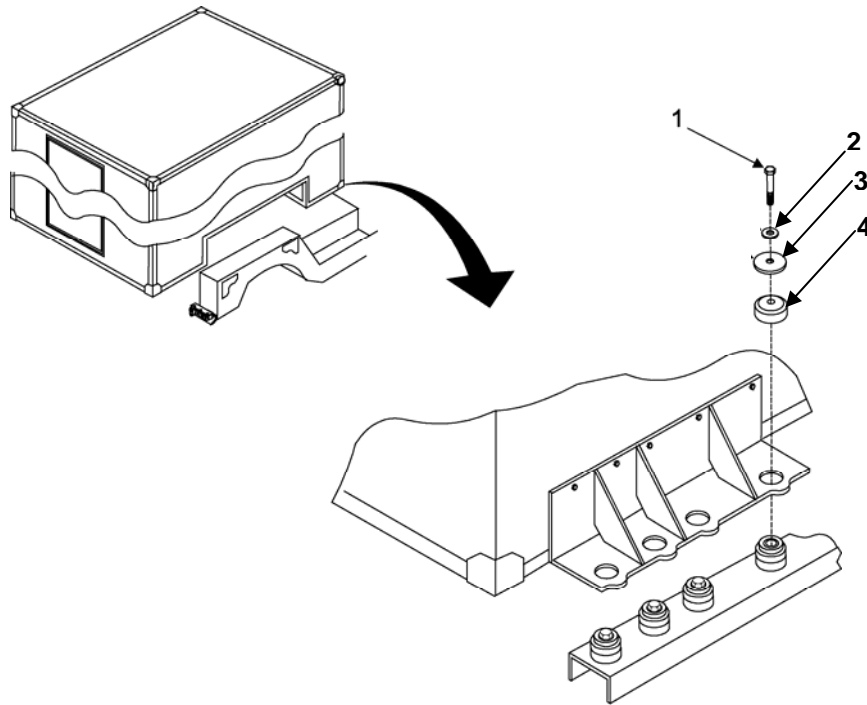

Figure 9. Mounting Shelter On HMMWV.
10. Remove each front mounting screw (figure 9, item 1) from the vehicle beam and add flat washer (figure 9, item 2), isolator mount washer (figure 9, item 3), and isolator (female portion) (figure 9, item 4) then reattach screw (figure 9, item 1).